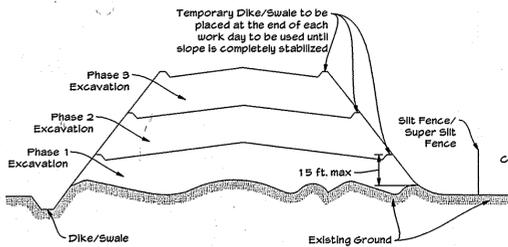

Figure B.2: Incremental Stabilization - Fill
4. Construction sequence example (Refer to Figure B.2).